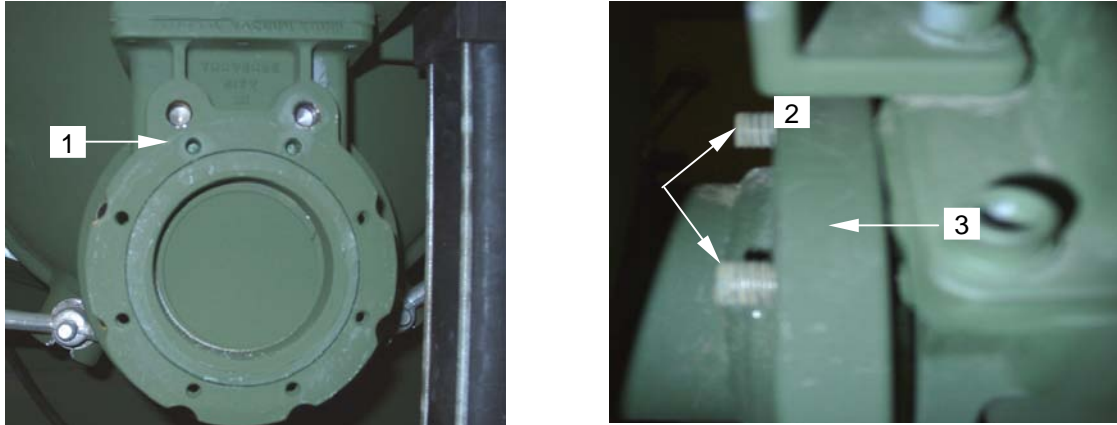

Figure 4. Removing Drain Valve
9. While supporting the drain valve (**figure 4, item 1**), remove the two nuts from the back (**figure 4, item 2**) of the rear flange (**figure 4, item 3**).